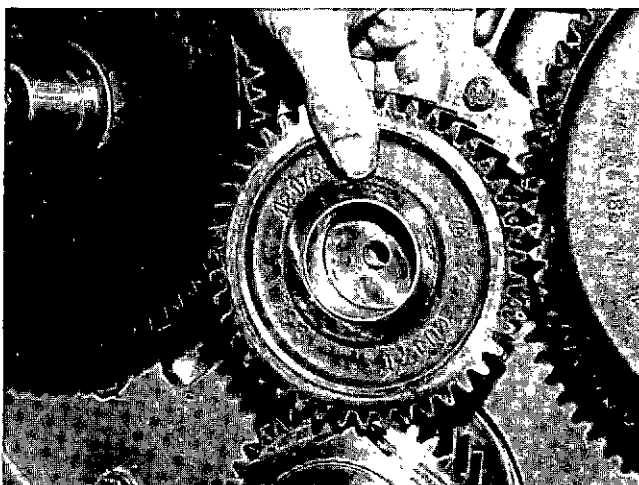

Fig. 0-38, V40070. Removing idler gear
2. Remove front thrust washer, gear and rear thrust washer from idler shaft. Fig. 0-38.